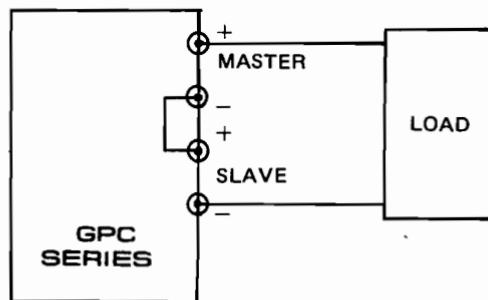

Fig. 5-3 Single Supply
F. If "single supply" operation is desired, this allows the power supply to be used as twice the voltage and rating current simply by using the negative (black) terminal of the SLAVE supply and the positive (red) terminal of the MASTER supply, the configuration as shown in Fig. 5-3.